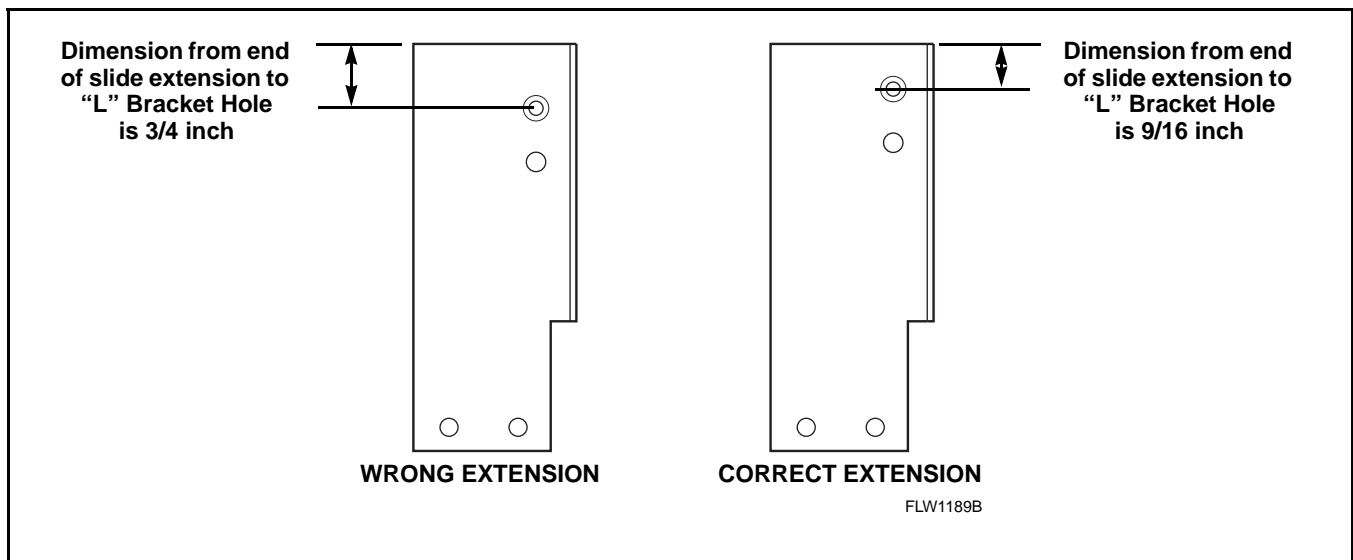

Figure 10
- If coin slide fails to initiate cycle start, review coin slide extension dimensions in *Figure 10*. It is possible that the wrong hole placement for locating the clutch activation arm is causing the “No Start” condition.
- If hole dimensions vary from *Figure 10*, replace with 685593 coin slide extension.